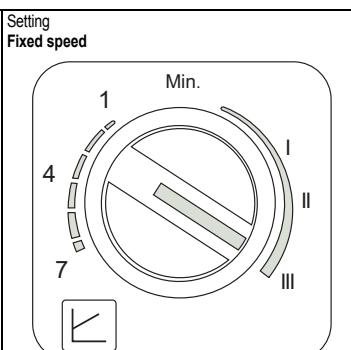

fig. 19
- Setting Fixed speed (fig. 19)